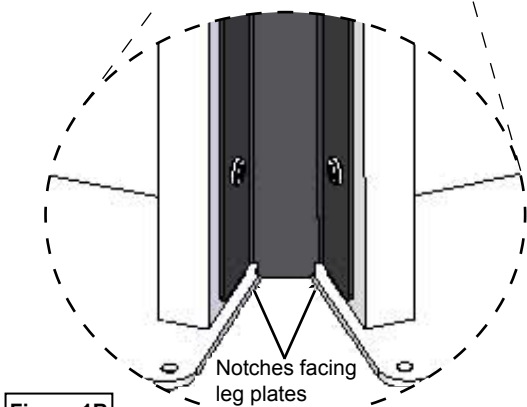

Figure 1B
1. To make a leg assembly, attach a leg bracket (notches facing leg plates **Figure 1B**) to two legs with (4) 1/4-20 x 5/8" PHM screws. **Figure 1A**. Leave these screws loose until the legs are attached to the worksurface. This will help align the mounting holes. Each table requires a left and right leg assembly.